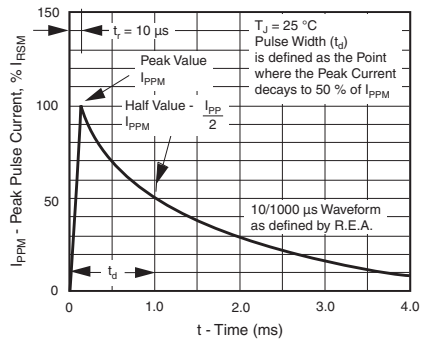
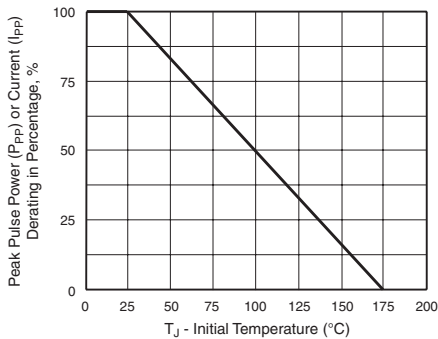

Figure 3. Pulse Waveform
Figure 2. Pulse Power or Current vs. Initial Junction Temperature
- (1) Pulse test:  $t_p \leq 50$  ms
- (2) Surge current waveform per Fig. 3 and derated per Fig. 2
- (3) For bi-directional types having  $V_{WM}$  of 10 V and less, the  $I_D$  limit is doubled
- (4) All terms and symbols are consistent with ANSI/IEEE C62.35